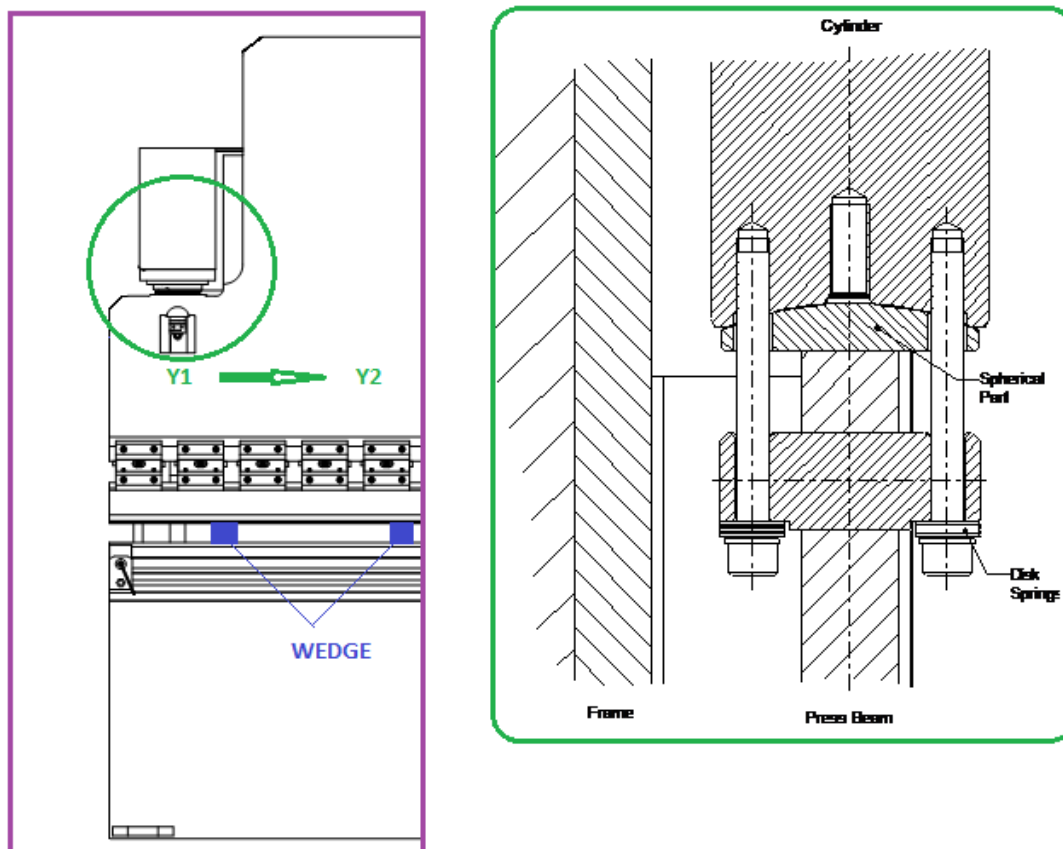

Figure-45
- Check if the cylinder connection flange (See Figure-45) is loose or tight.